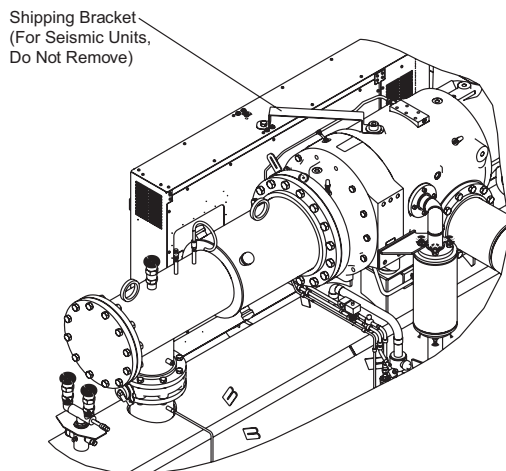

Fig. 45 — Control Center Shipping Bracket (Unit with R Compressor Shown)
9. Remove the control center shipping bracket (see Fig. 45).